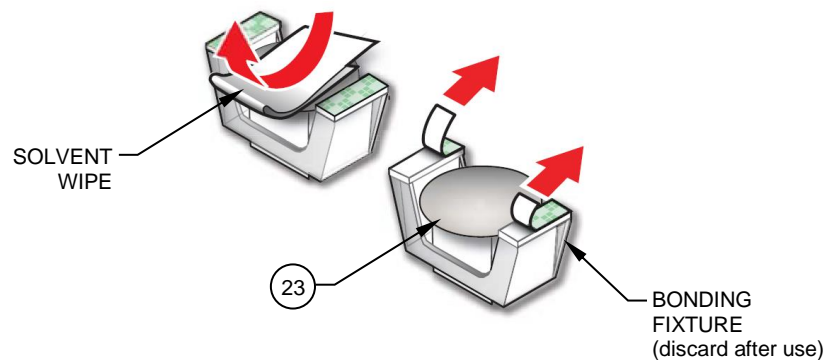

Figure A-2
5. Remove the adhesive backing being careful not to touch the base of the stud. Reference Figure A-2.